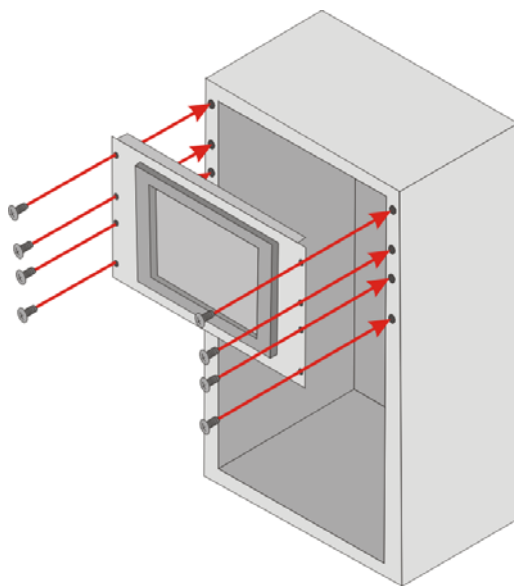

Figure 3-22: Install into a Rack/Cabinet
Step 4: Slide the flat panel PC with the attached rack/cabinet bracket into a rack or cabinet (**Figure 3-22**).
Step 5: Once the flat panel PC with the attached rack/cabinet bracket has been properly inserted into the rack or cabinet, secure the front of the rack/cabinet bracket to the front of the rack or cabinet (**Figure 3-22**).